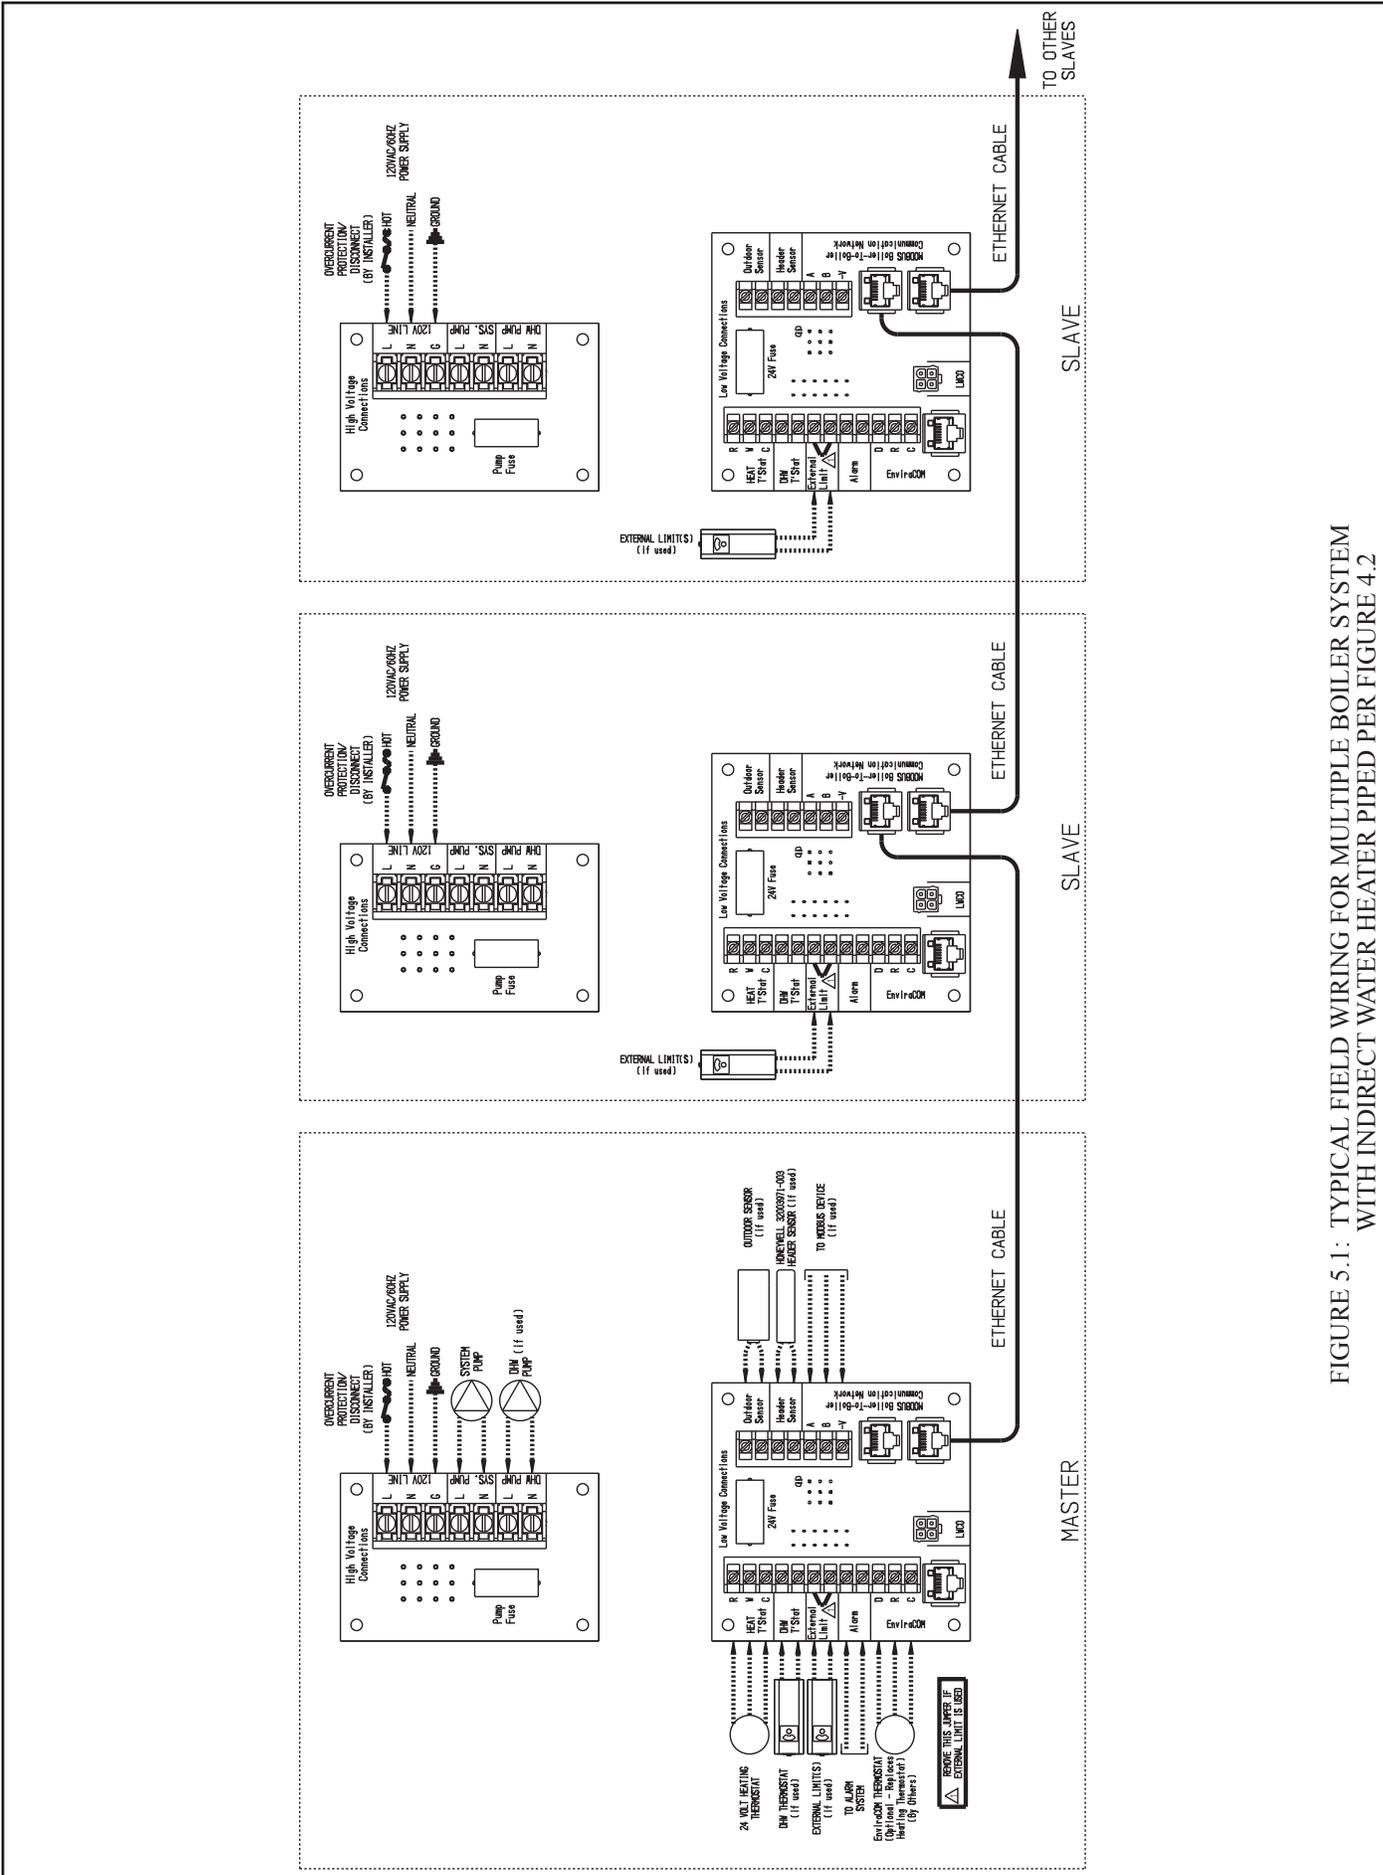
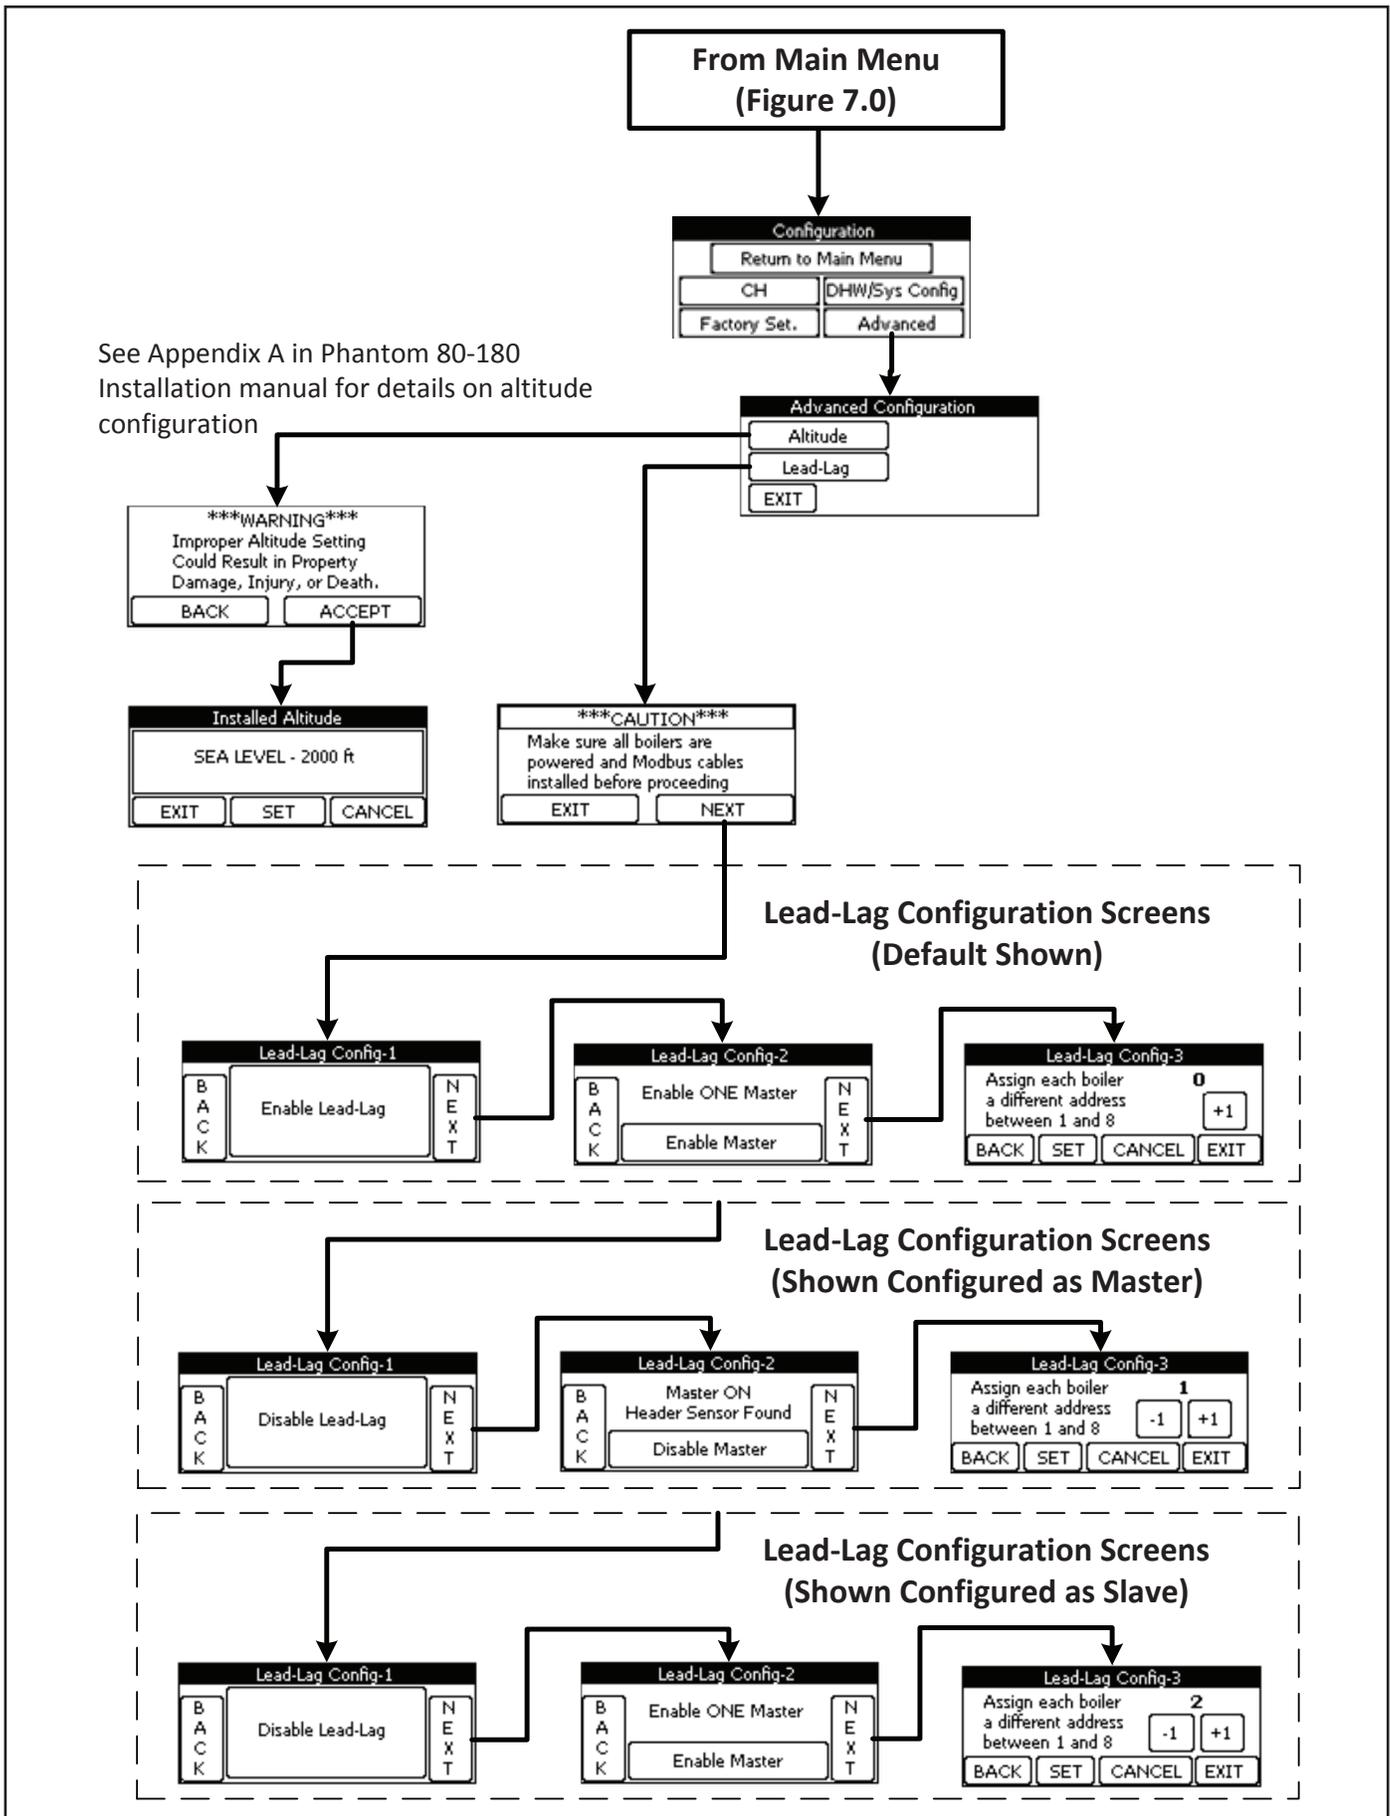

FIGURE 5.1: TYPICAL FIELD WIRING FOR MULTIPLE BOILER SYSTEM WITH INDIRECT WATER HEATER PIPED PER FIGURE 4.2
FIGURE 7.2: ADVANCED CONFIGURATION MENU
See typical field wiring in Figure 5.1. Key points are:
- 4) Header sensor P/N 103104-01 must be used in Phantom Multiple boiler applications. Install it in the system piping as shown in Figure 4.2 (also see Fig 4.3 for installation detail). Wire it to the Master boiler as shown in Figure 5.1. Observe the precautions against electrical noise that are described for sensor wiring in Part X of the boiler installation manual.
- 5) Outdoor Sensor – If used, wire to the Master as shown in Figure 5.1.
- 7) MODBUS Communication Wiring – The Master communicates with the Slaves using the MODBUS connections on the low voltage PCB. The simplest way to make these connections is using Ethernet (PC network) cables. Use the standard “straight through” cables for this and plug them into the Modbus receptacles as shown in Figure 5.1.
- h) On the Master (see Figure 5.1) boiler only – Press the button marked **ENABLE MASTER** in order to enable the Master. If the Master is successfully enabled, the screen will look like that in Figure 7.2. If there is no header sensor connected to this boiler, or if there is a problem with the header sensor, an error message will appear on this screen.